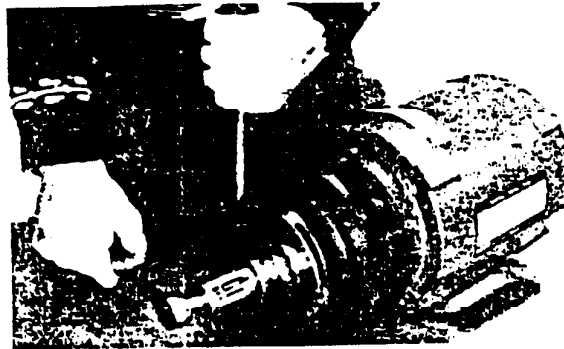

Figure 2
9. Pry off rotating member of mechanical seal from sleeve or stub shaft by using two (2) screwdrivers (see Figure 2).